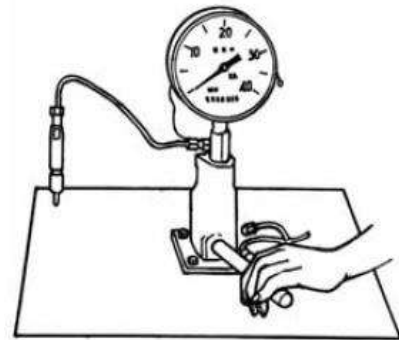

Fig3-16 Check the Injector
4.6 Check the injection pressure and quality of sprayer (see Fig3-16). The opening pressure of J series fuel injection is 19.6 MPa to 20.8MPa.